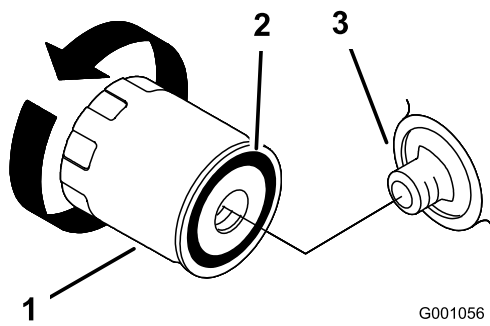

Figure 22
2. Remove the old filter and wipe the filler adapter gasket surface (Figure 22).
- Apply a thin coat of new oil to the rubber gasket on the replacement filter (Figure 22).
- Install the replacement oil filter to the filter adapter, turn the oil filter clockwise until the rubber gasket contacts the filter adapter, then tighten the filter an additional 2/3 to 1 turn (Figure 22).